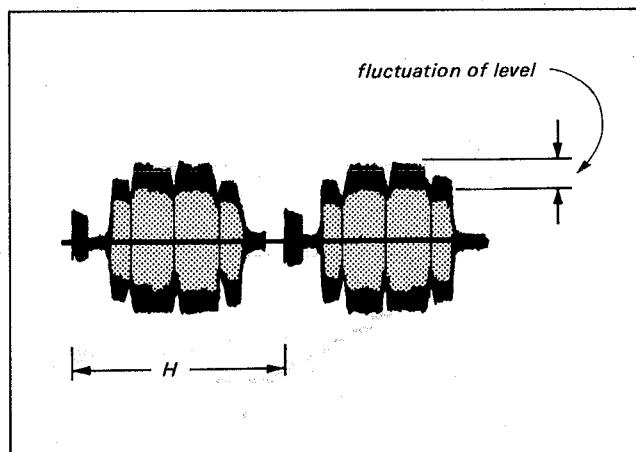

Fig. 5-18. JOG EXCH. C. level adjustment
- i) Adjust RV013 so that the fluctuation of level is minimum. (See Fig. 5-18.)